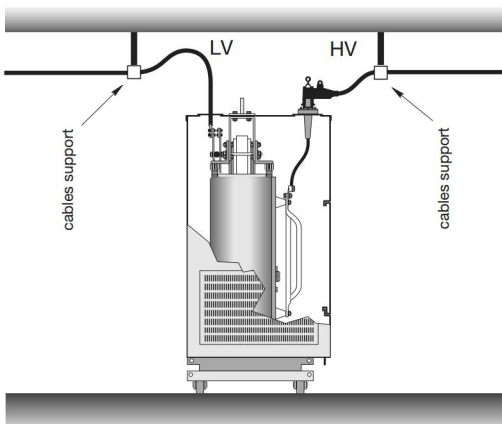

figure 3 - HV connections with plug in connectors (option)
□ HV connection by plug in connector (figure 3).